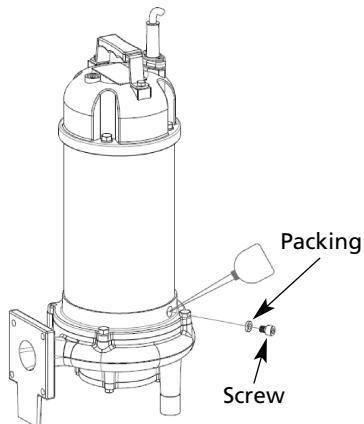

Figure 5
Refer to Figure 5, page 5
Refer to Figure 5
- First, remove the pipe connections and drain out most of the lubricant oil from the seal plate as previously shown in Figure 5. Refer to "Replacing Lubricant Oil" section.